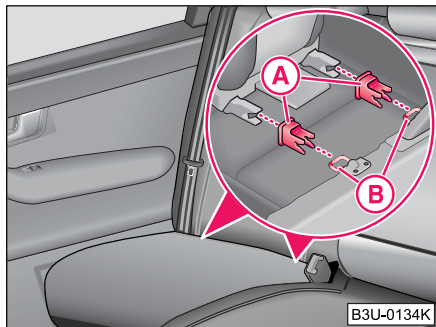

Fig. 113 Locking eyes (ISOFIX system)
- Insert the mounting funnels (A) onto the locking eyes (B) between the backrest and seat cushion ⇒ fig. 113.